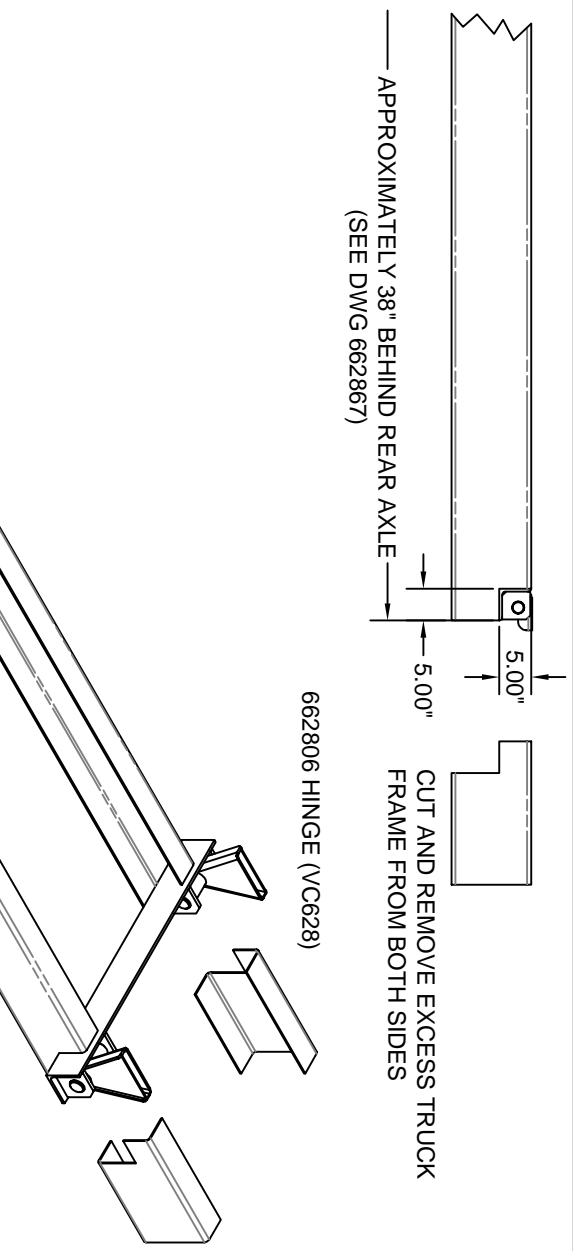

Figure 2 - Frame Modification and Rear Hinge Attachment
- B. Cut a 90° slot in each side of the frame as shown in Figure 2 below.
With the body aligned with the truck frame, push the hinge rockers outward as far as possible. Ensure that the longitudinal rails are sitting flat on the rockers, weld the body longitudinals to rockers (DWG 662871 Figure 2). See installation DWG 628861 for more information regarding the mounting of the rear hinge rockers to the body.